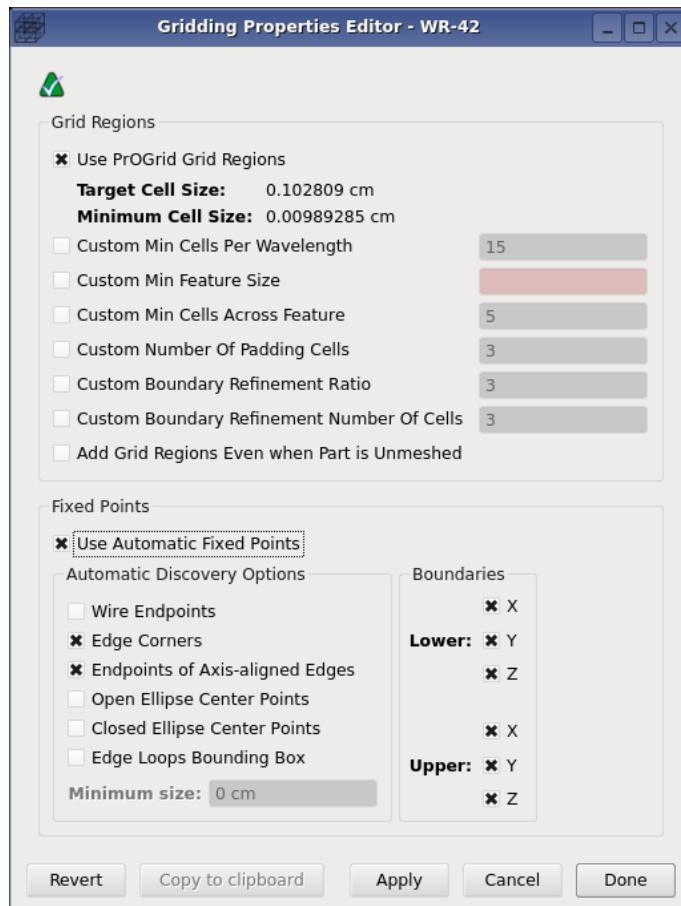

Figure 5.15: Gridding Properties for WR-42
- One item to note is that at the top of Figure 5.15 there is a check box for USE AUTOMATIC GRID REGIONS. This option allows you to apply a smaller grid to this part than the base cell size. This can help speed up calculations and reduce the overall memory usage in cases where a smaller mesh size is needed only on a particular part in order to resolve gaps, traces, etc.